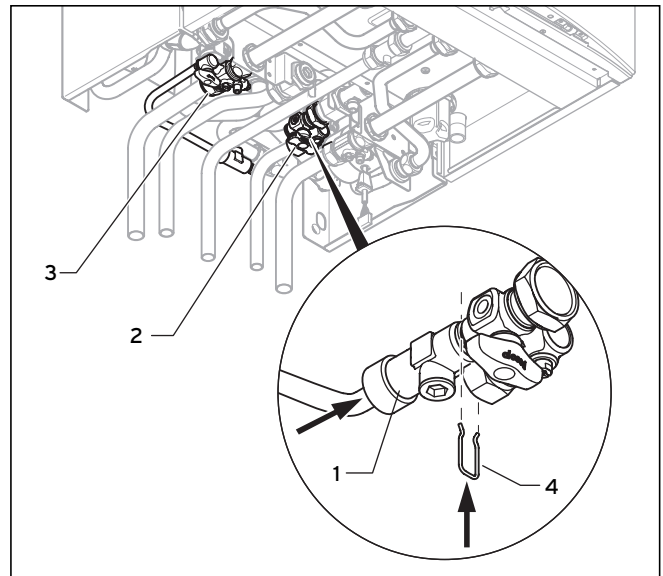

Fig. 5.2 Filling device
- Push the double check (1) of the filling loop into the cold water stop valve (2) and secure the double check valve (1) with the spring clip (4).
- First open the stop valve to perform the filling (3).
- Open the cold water stop valve (2) so that the water flows into the heating system. Fill the heating system as described in Section 5.4.3.
- After filling close both stop valves and remove the filling loop by pulling the double check valve (1) off the cold water stop valve (2) (see Fig. 5.2).